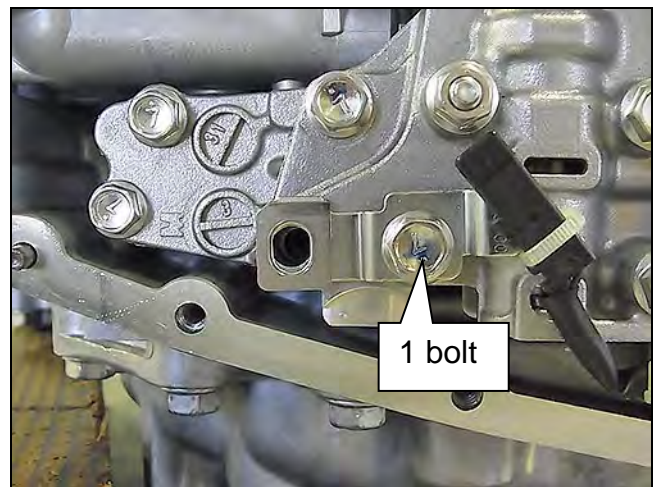

Figure 30
6. Install the CVT fluid temperature sensor bracket to the valve body with one (1) bolt (Figure 30).